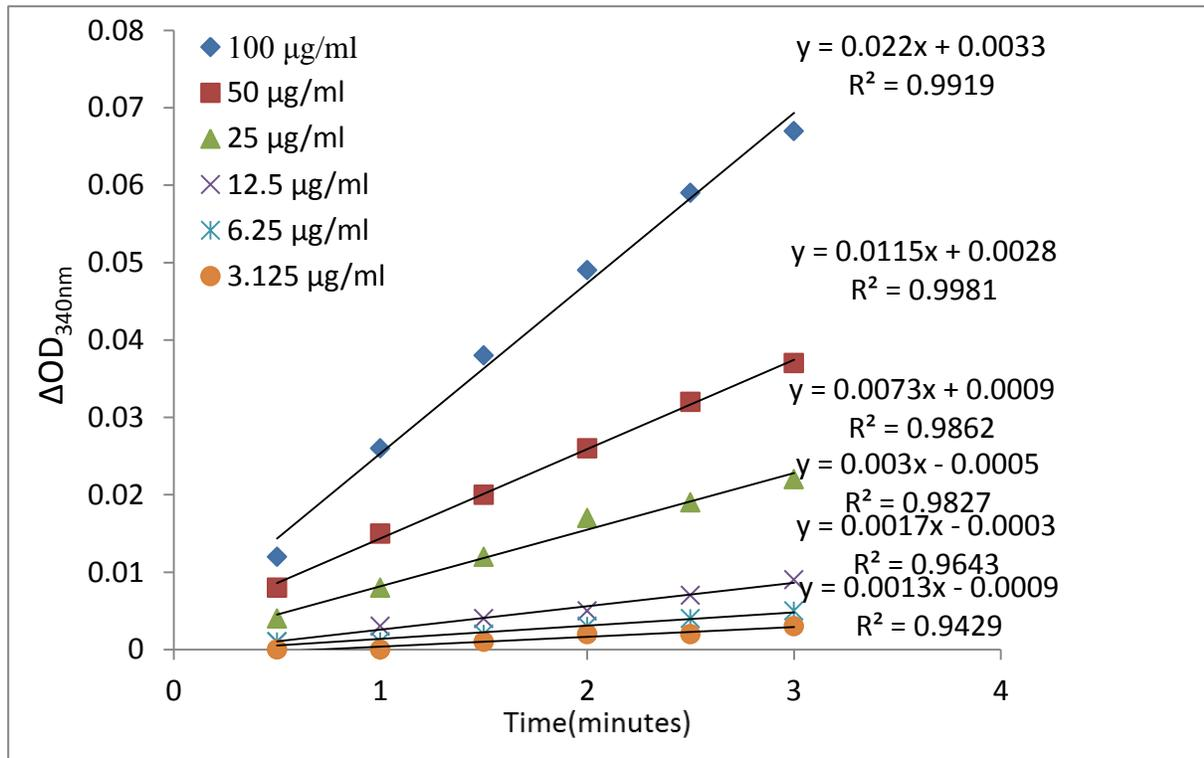

Figure1. Standard curves of ΔOD_{340nm} vs reaction time for ammonia solution with different concentration.
Serially diluted ammonia solutions with concentrations ranging from 3.125 to 100 μ g/mL are measured with the ScienCell™ Ammonia Assay kit. The change in OD_{340nm} is monitored as a function of time (Figure 1) and the resulting standard curve of $\Delta OD_{340nm}/min$ vs ammonia concentration are plotted (Figure 2). A positive linear relationship between $\Delta OD_{340nm}/min$ & ammonia concentration can be observed.
- of reaction time (Figure 1) in which $\Delta OD_{340nm} / \text{min}$ is calculated.
Figure2. Standard curve of $\Delta OD_{340nm}/\text{min}$ vs concentration of ammonia. The $\Delta OD_{340nm}/\text{min}$ is calculated as the slope of the standard curves shown in Figure 1.